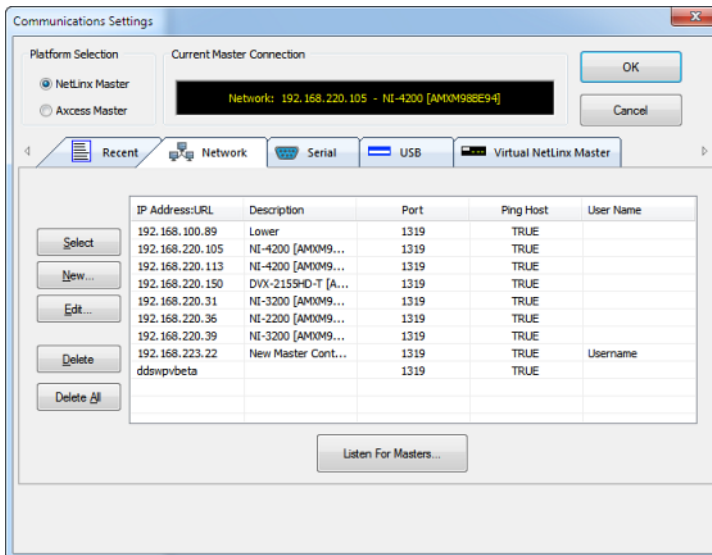

FIG. 20 Communications Settings dialog - Network tab
- Select the **Network** tab (FIG. 20).